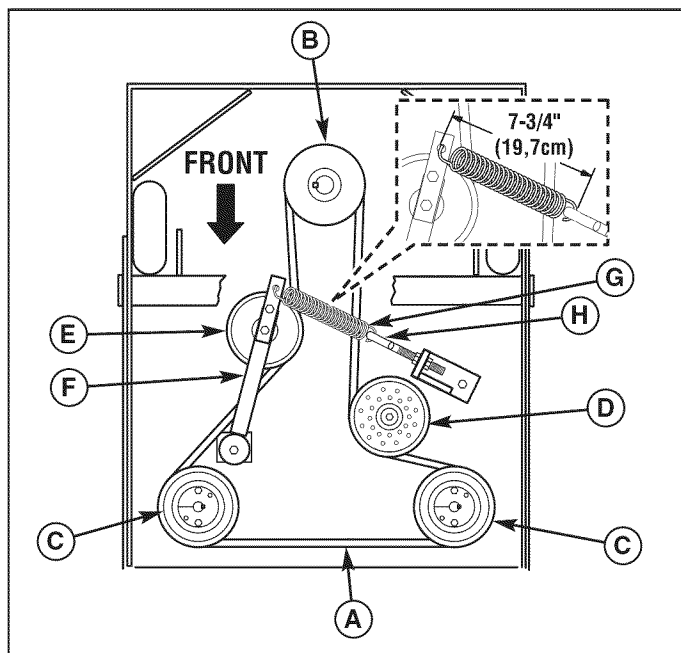

Figure 32. Hydraulic Pump Drive Belt Replacement (Shown from Below)
3. Loosen the nut towards the front of the machine on the spring anchor hook (H, Figure 32) to release the majority of the belt tension. Use caution and remove the nut to completely release the tension.
5. Reinstall the anchor hook (H) into the anchor tab and loosely fasten the nut. Adjust the spring until a measurement of 7-3/4" (19,7cm) is achieved from the outside of the spring hooks. Tighten nut.